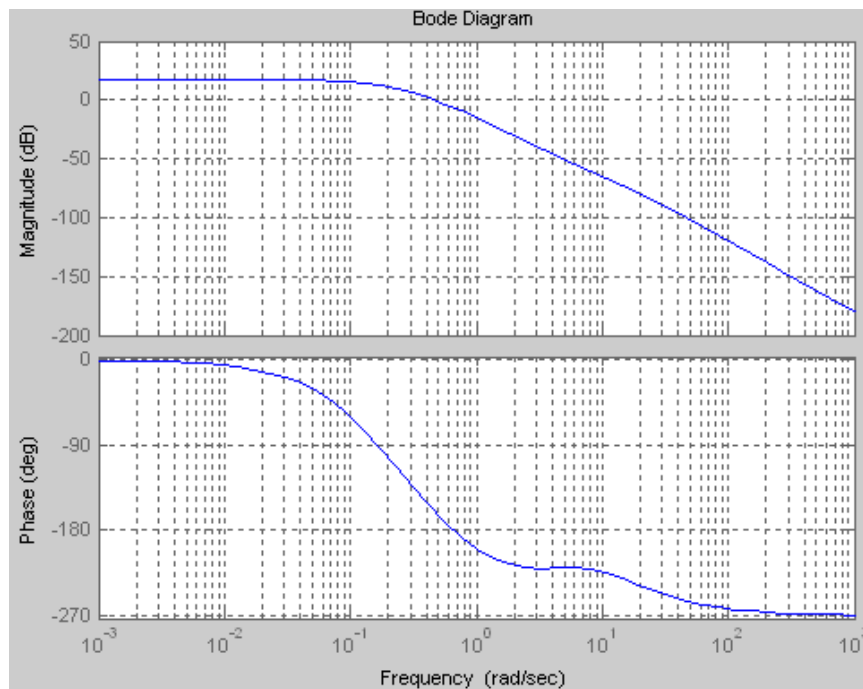

Fig. 4
- b The Bode plots of the plant $(s+5)(s+6)/\{(s^3+14s^2+13s+2)(s^2+13s+2)\}$ is shown in Fig. 4. A phase lag of -180° is observed at 0.7rad/s and 0dB gain is observed at 0.8rad/s . [8]